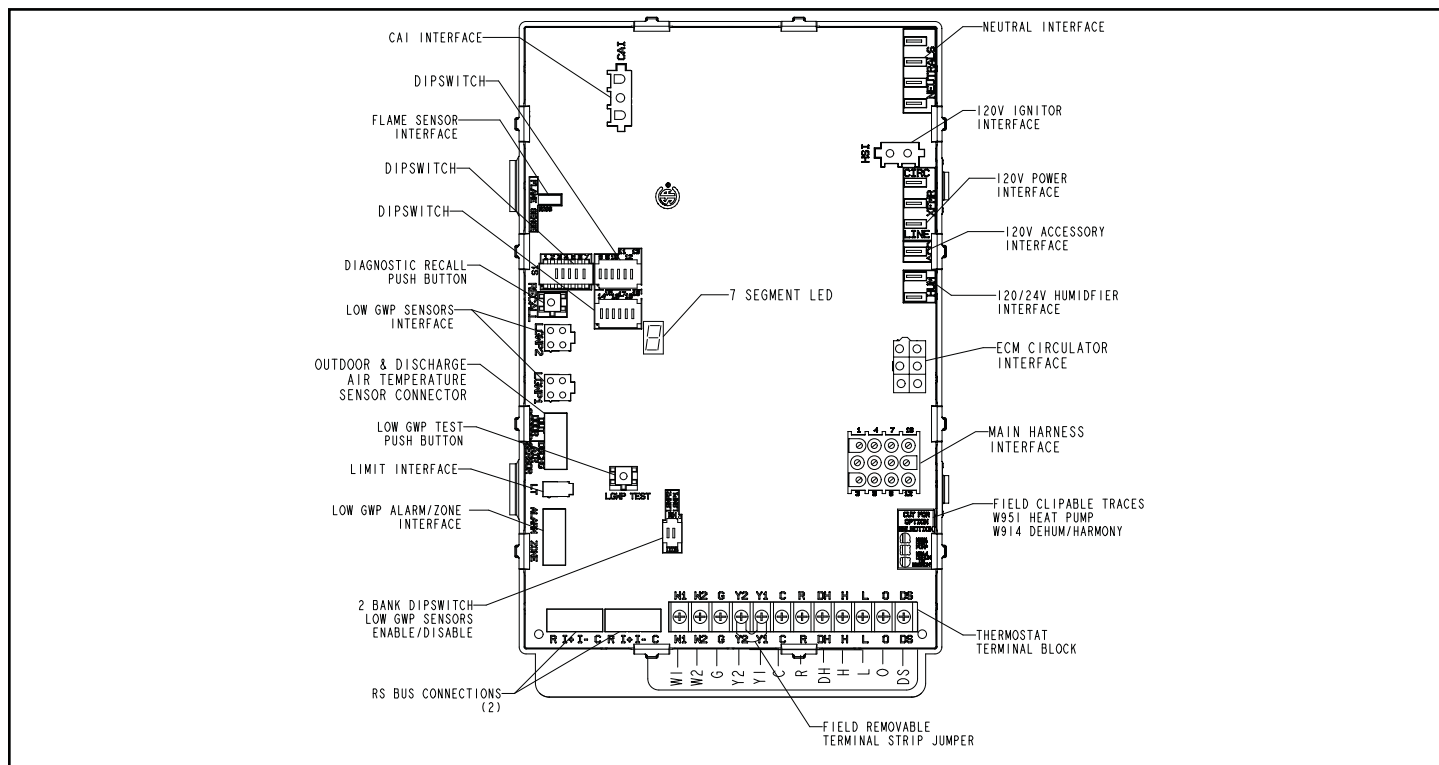

Figure 47.
7. One line voltage "ACC" 1/4" spade terminal is provided on the furnace integrated control. Any electronic air cleaner or other 120V accessory rated up to one amp can be connected to this terminal with the neutral leg of the circuit being connected to one of the provided neutral terminals. See Figure 47 for location of terminal. This terminal is energized when the indoor blower is operating.
8. One line voltage "HUM" 1/4" spade terminal is provided on the furnace integrated control. Any humidifier rated up to one amp can be connected to this terminal with the neutral leg of the circuit being connected to one of the provided neutral terminals. See Figure 47 for location of terminal. This terminal is energized in the heating mode when the indoor blower is operating.
1. One 24V "H" terminal is provided on the furnace integrated control terminal block. Any humidifier rated up to 0.5 amp can be connected to this terminal with the ground leg of the circuit being connected to either ground or the "C" terminal. See Figure 47 for location of terminal.
See Figure 47